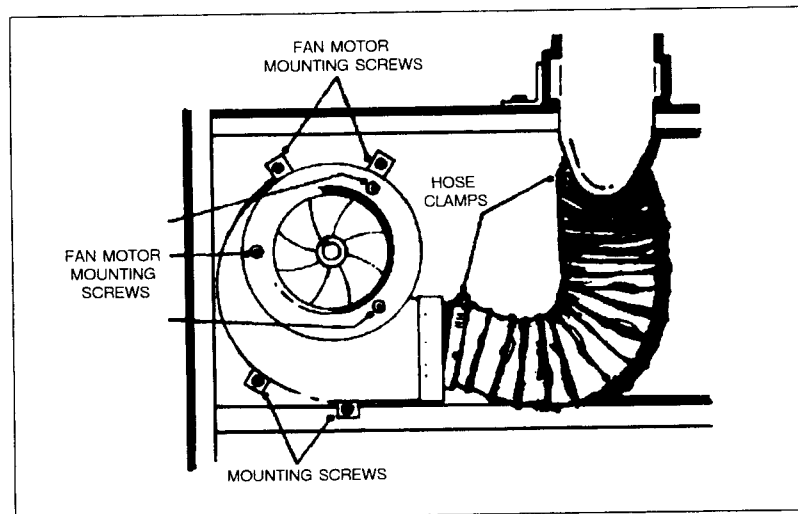

Figure 6-26. Printbar Blower
- f. From the left end of the printer, remove the four 3 mm Allen screws that secure the fan to the mounting panel (see Figure 6-26).